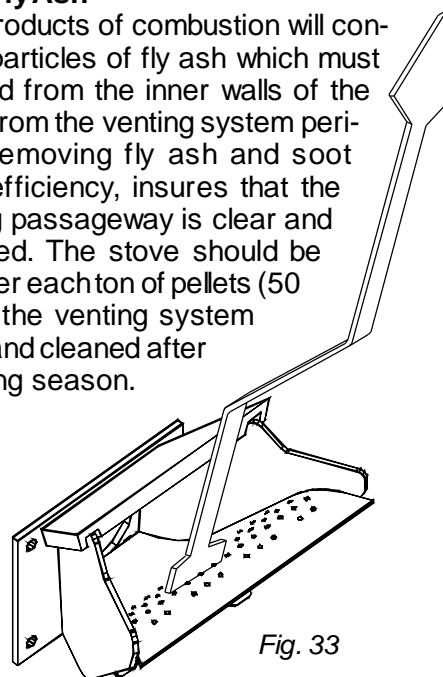

Fig. 33
4. Scrape burnpot with flat end of scraper provided with the stove. Inspect the holes on teh burnpot surface. See Fig. 33.